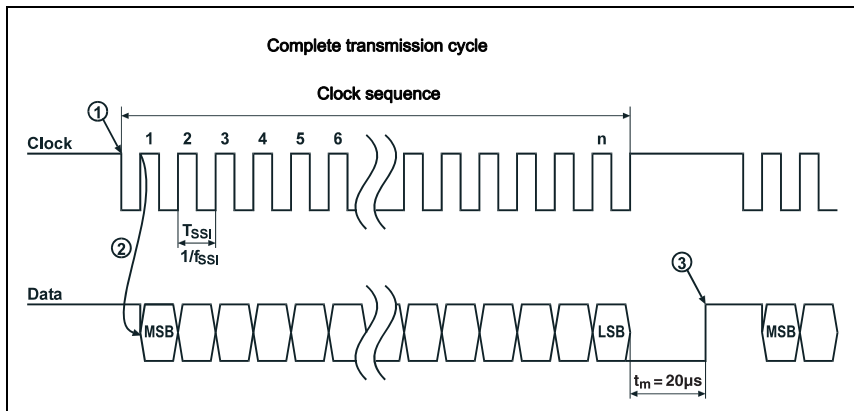

Figure 10.1: SSI data transmission sequence diagram
In the idle state, both the clock line as well as the data line are at HIGH level. At the first HIGH-LOW edge (point ① in Figure 10.1), the data in the internal register is stored. This ensures that the data are not changed during serial transfer of the value.
When the next clock signal change from LOW to HIGH level (point ② in Figure 10.1) occurs, transmission of the position value begins with the most significant bit (MSB). With each subsequent change of the clock signal from LOW to HIGH level, the next least-significant bit is transmitted on the data line. After the least significant bit (LSB) has been output, the clock signal switches from LOW to HIGH for one last time and the data line switches to LOW level (end of transmission).
A monoflop retriggered by the clock signal determines the time span before the SSI interface can be called for the next transmission. This results in the minimum pause time between two successive clock cycles. If time $t_m = 20\mu s$ has elapsed, the data line is returned to the quiescent level (HIGH) (point ③ in Figure 10.1). This signals completed data communication and that the device is again ready for transmission.